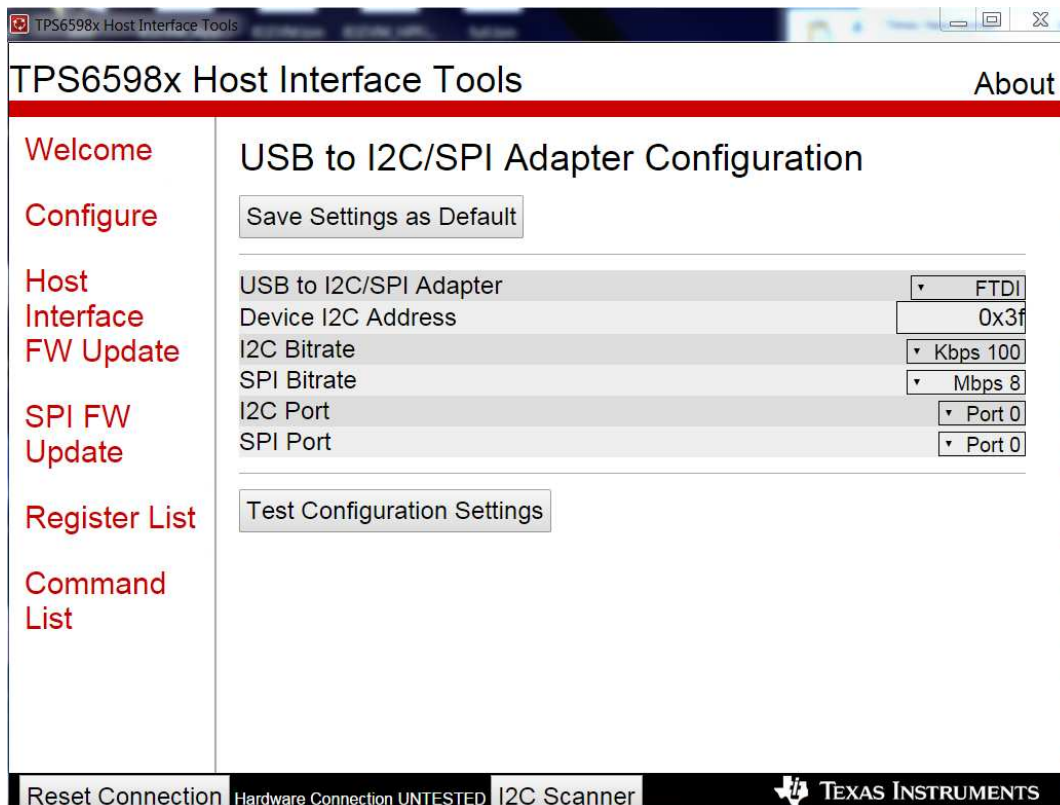

Figure 11. FTDI Configuration Settings
- Step 2. Open the TPS6598x Utilities GUI, click the *Configure* link on the left side of the GUI, verify the settings, and confirm the connection by clicking the *Test Configuration Settings* button (see Figure 11).